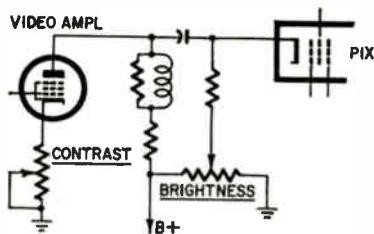

Fig. 914. Brightness and contrast controls in a conventional black-and-white set.
**Service:** Both the brightness and contrast controls in many color TV chassis, are in an entirely different location from the standard control positions used on monochrome TV sets (Fig. 914).